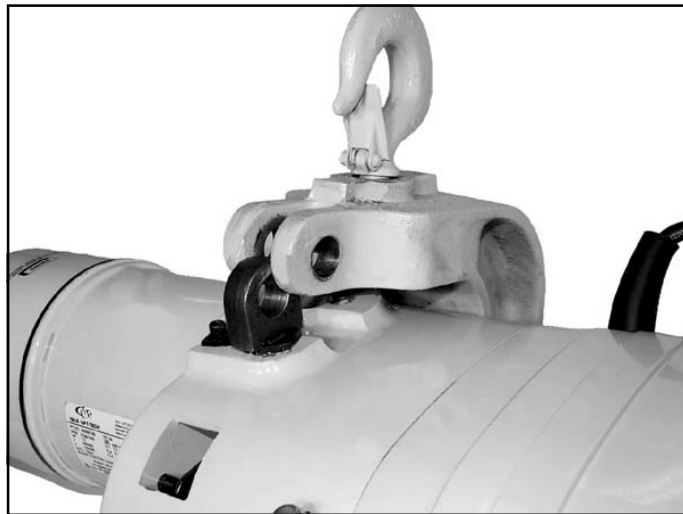
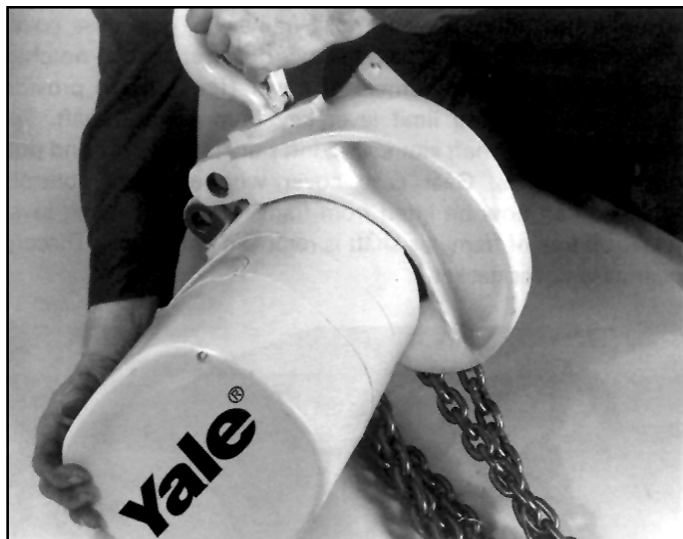

Figure 7-2. 3 Ton Hanger Bracket Connection Pin Removed
Figure 7-3. Removing 3 Ton Hanger Bracket from Hoist Frame
(4) To remove 3 ton hanger bracket from hoist, remove retaining ring and connecting rod pin (see fig. 7-2). Rotate hoist approximately 45° (see fig. 7-3) and hanger will slip free from hoist frame.
(3) On 3 ton models, remove retaining ring from connecting rod pin and push connecting rod pin through bracket and connecting rod, releasing hanger (see fig. 7-2). Raise hanger above hoist frame to provide access to hook nut. Rotate hook
(4) To remove connecting rod (fig 7-2) on 3 ton hoist, remove screw securing suspension bushing keeper. Unscrew suspension bushing to remove connecting rod from frame.